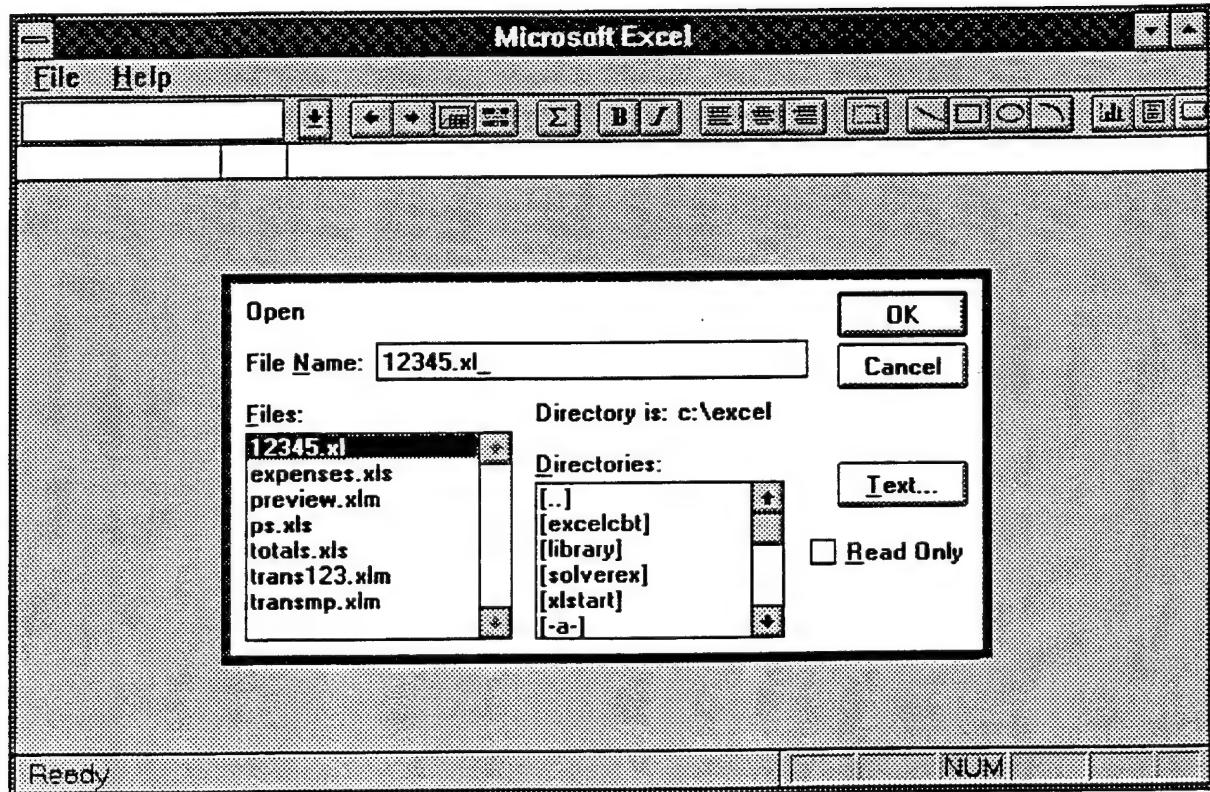
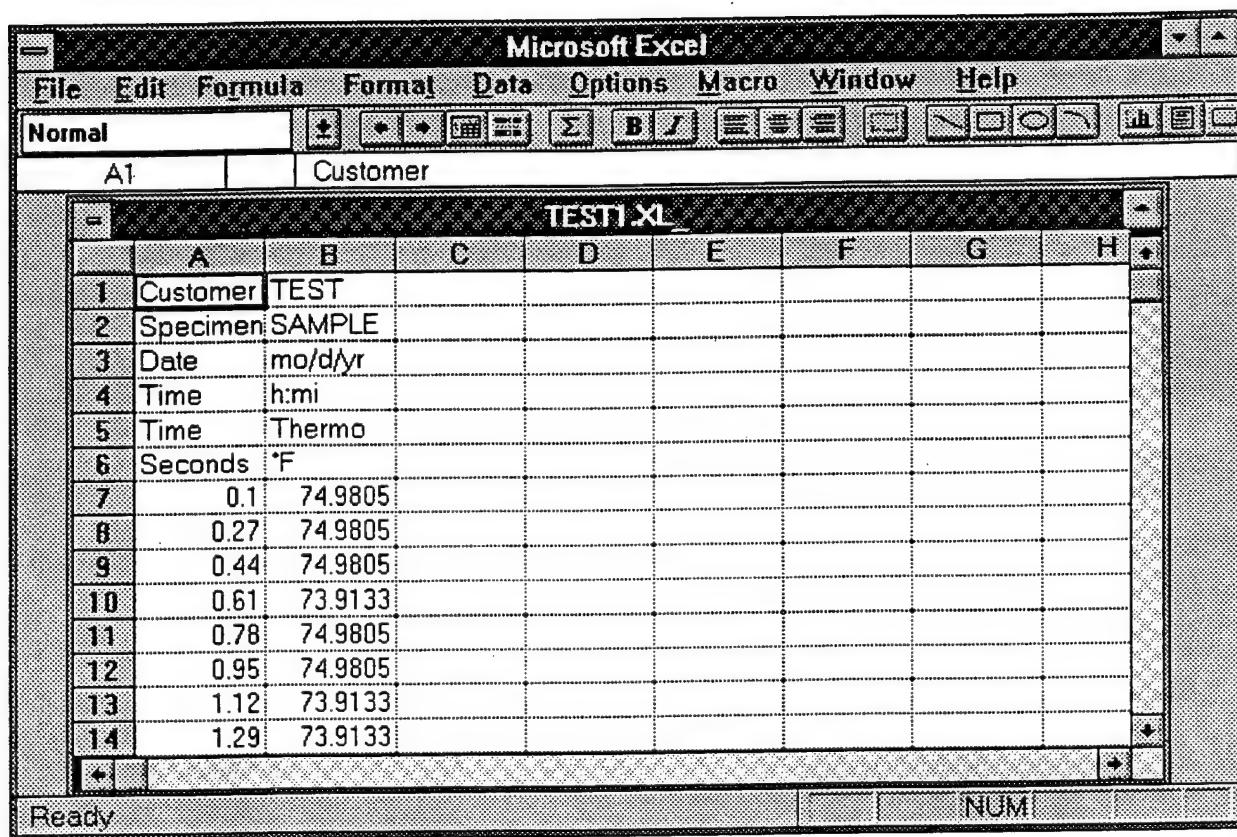
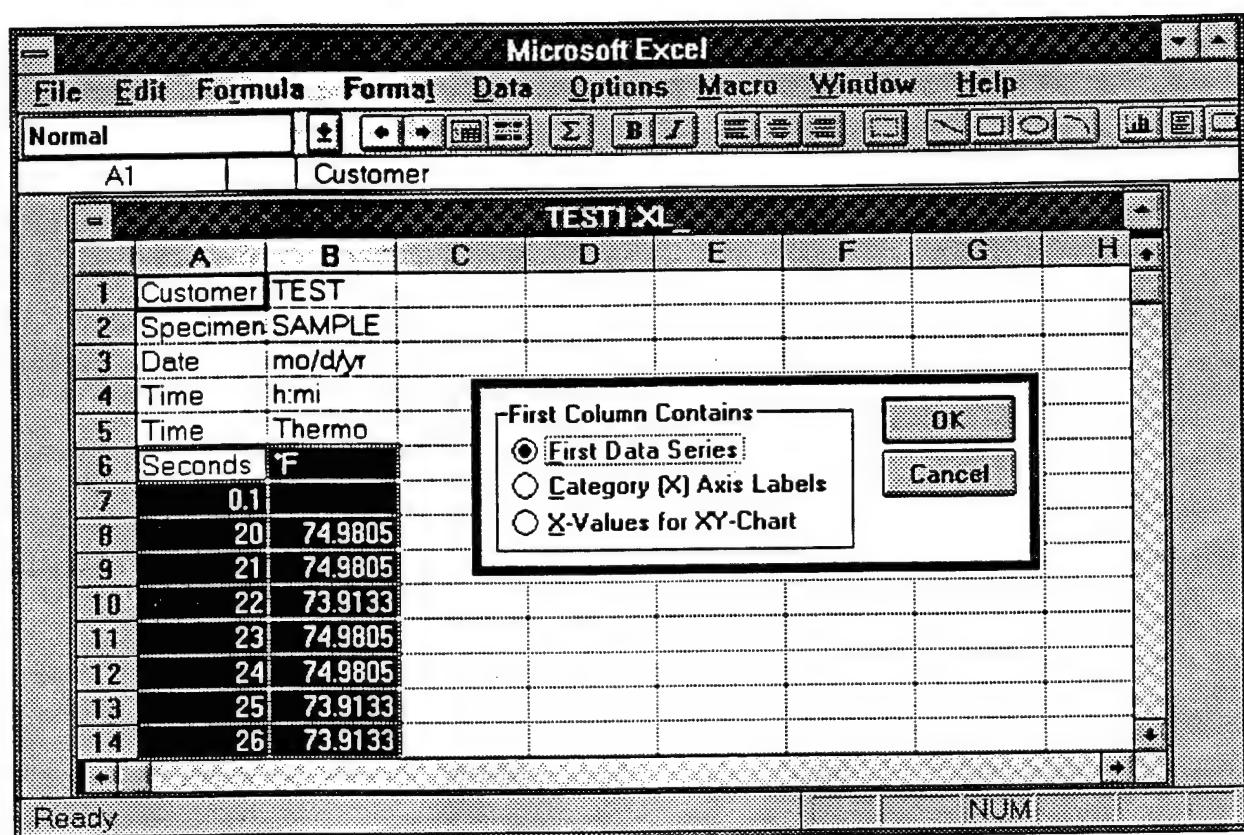

Figure 3-10. File.
Figure 3-11. File Information.
Figure 3-12. File Information (Shaded).
2. Position cursor on FILE in upper left corner and execute single click. Figure 3-10 will appear.
3. Position cursor on OPEN and execute single click. A list of files will be displayed in Figure 3-10. Position cursor to file created for the test and execute a single click. Position cursor on OK and execute a single click. Figure 3-11 showing the selected data file will appear.
4. Execute and hold mouse click while moving mouse over entire area of data in Figure 3-11 to be plotted. When the entire area is shaded as shown in Figure 3-12, immediately release the click and position the cursor on the bar graph symbol in upper right corner of the screen.
5. Position cursor in lower left corner of screen (Figure 3-12). Execute and hold mouse click. Move cursor from lower left to upper right of screen to create data boundaries. Release the click. A small box will appear in the figure. Position cursor to select first column information (usually X-values for XY chart is selected) and execute single click. Position cursor to OK and execute single click. The plot will appear on the screen.